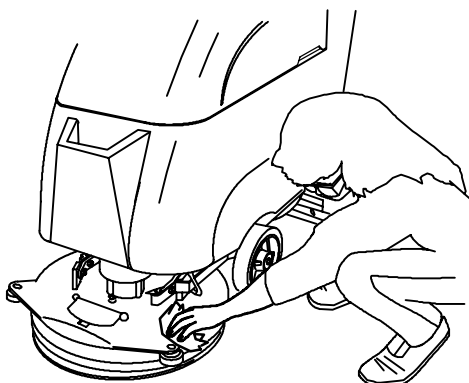

FIG. 63
8. Clean the machine with an all purpose cleaner and damp cloth (Figure 63).